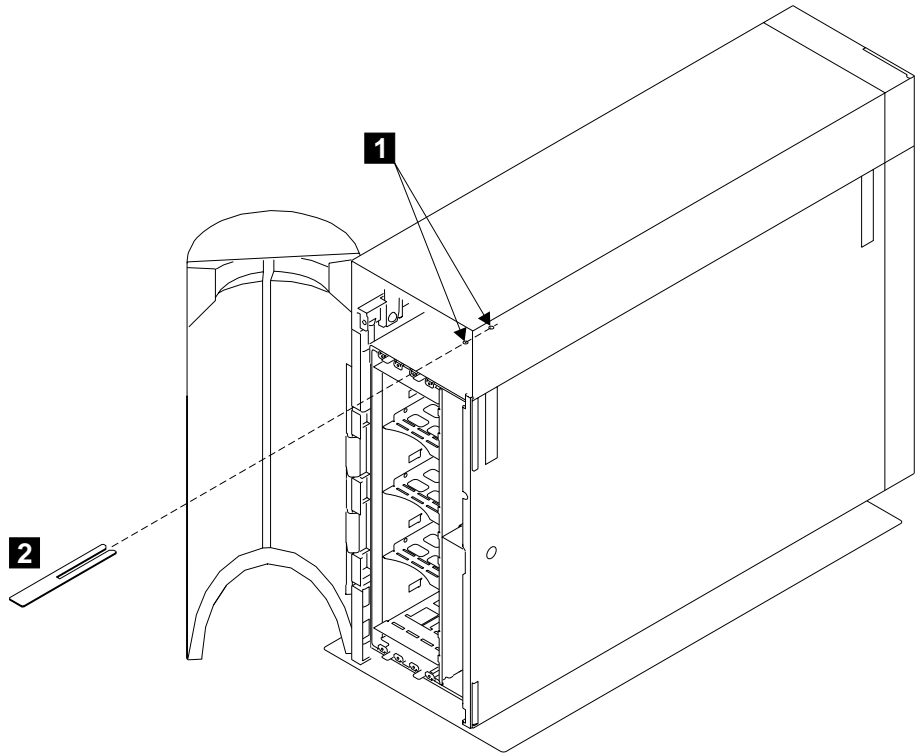

Figure 128. Removing the Frame from a Model T40 (2)
6. Refer to Figure 128.
- a) Install the two screws ( **1** in Figure 128), but do not fully tighten them yet.